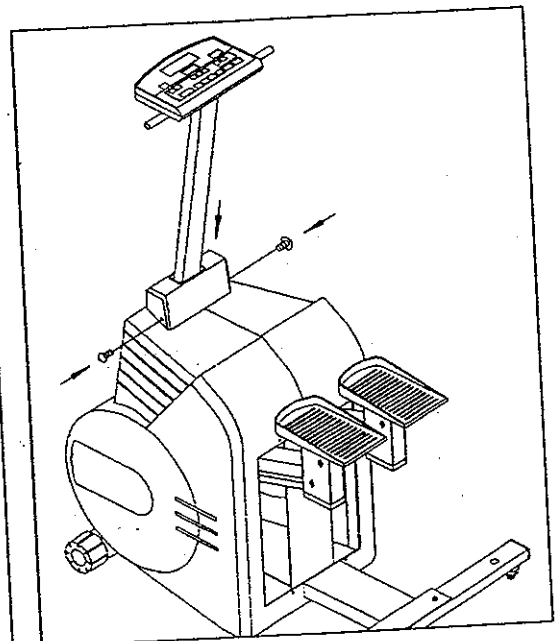

Fig. 9
3. Secure the post shroud with two screws (see Fig. 9).